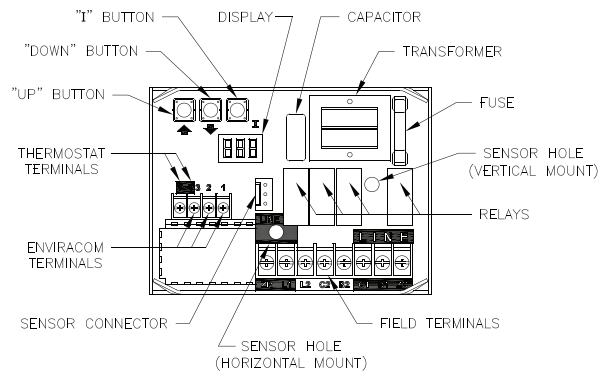

Figure 31: Intelligent Oil Boiler Control
- b. The boiler's sequence of operation is shown as Status Codes on Cold Start Boiler Control display. See Table 5 and Figure 31.
- d. If the thermostat is not satisfied and the Operating Setpoint (SP) is reached the system circulator will continue to operate and the burner will stop. When the boiler water temperature drops below the setpoint less the differential setting the burner will restart.
- f. When an indirect water heater aquastat call for heat is wired to the "ZR" terminal the Boiler Control starts a domestic hot water circulator connected to the "ZC" terminal and when the boiler temperature is less than Operating Setpoint (SP), the Cold Start Boiler Control energizes the oil primary to turn on the burner without circulator pre-purge delay.
- b. The boiler's sequence of operation is shown as Status Codes on Warm Start Boiler Control display. See Table 5 and Figure 31.